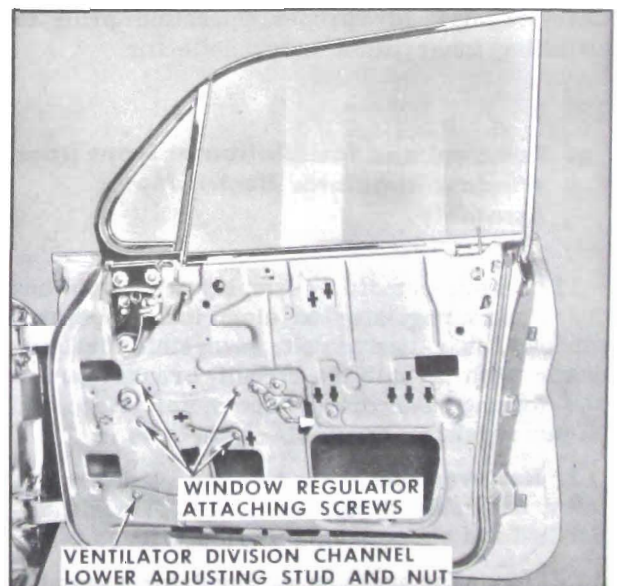

Figure 2-24—Door Window Regulator Attachment
2. Remove ventilator division channel lower adjusting stud and nut (see Figure 2-24).
3. On styles equipped with manual window regulators, lower window. Remove window lower sash channel cam attaching screws and disengage sash channel cam from window lower sash channel; then raise window and prop in full up position. Disengage sash channel cam from window regulator arm rollers (see Figure 2-24).